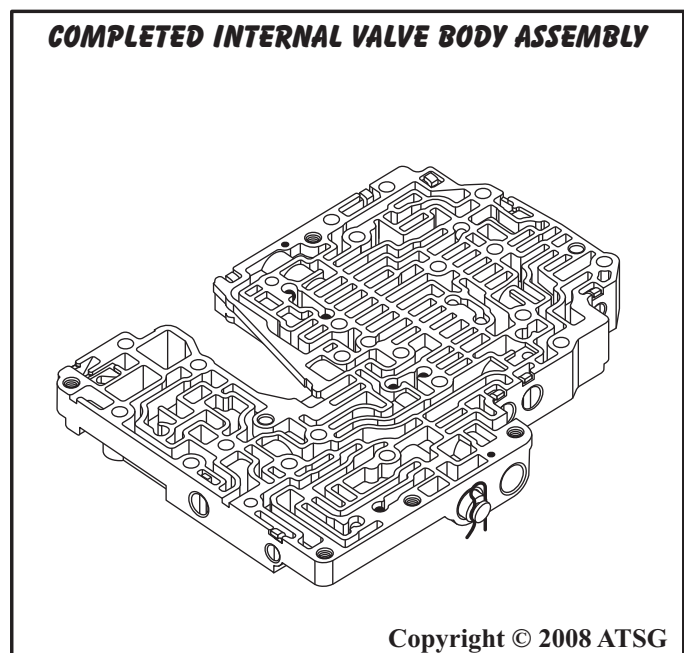

Figure 102
32. Set the completed internal valve body aside for final valve body assembly (See Figure 102).